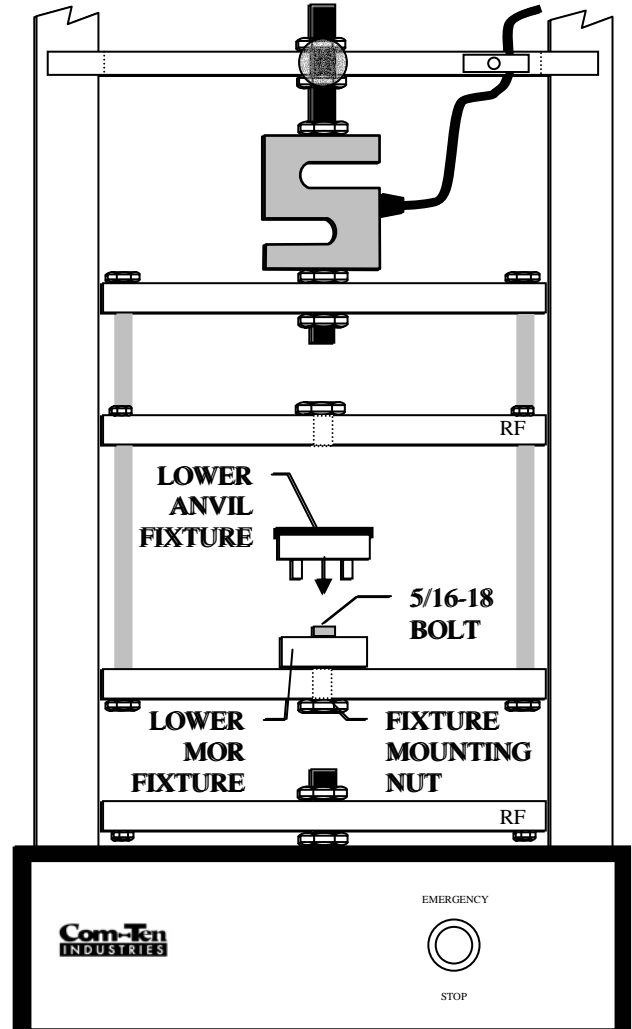

Figure 4.11 - MOUNTING LOWER MOR FIXTURE
2. Starting with the lower MOR fixture, place it on top of and perpendicular to the Lift Bar, aligning the center hole in the fixture with the mounting hole in the Lift Bar. Refer to Figure 4.11 - MOUNTING LOWER MOR FIXTURE below.